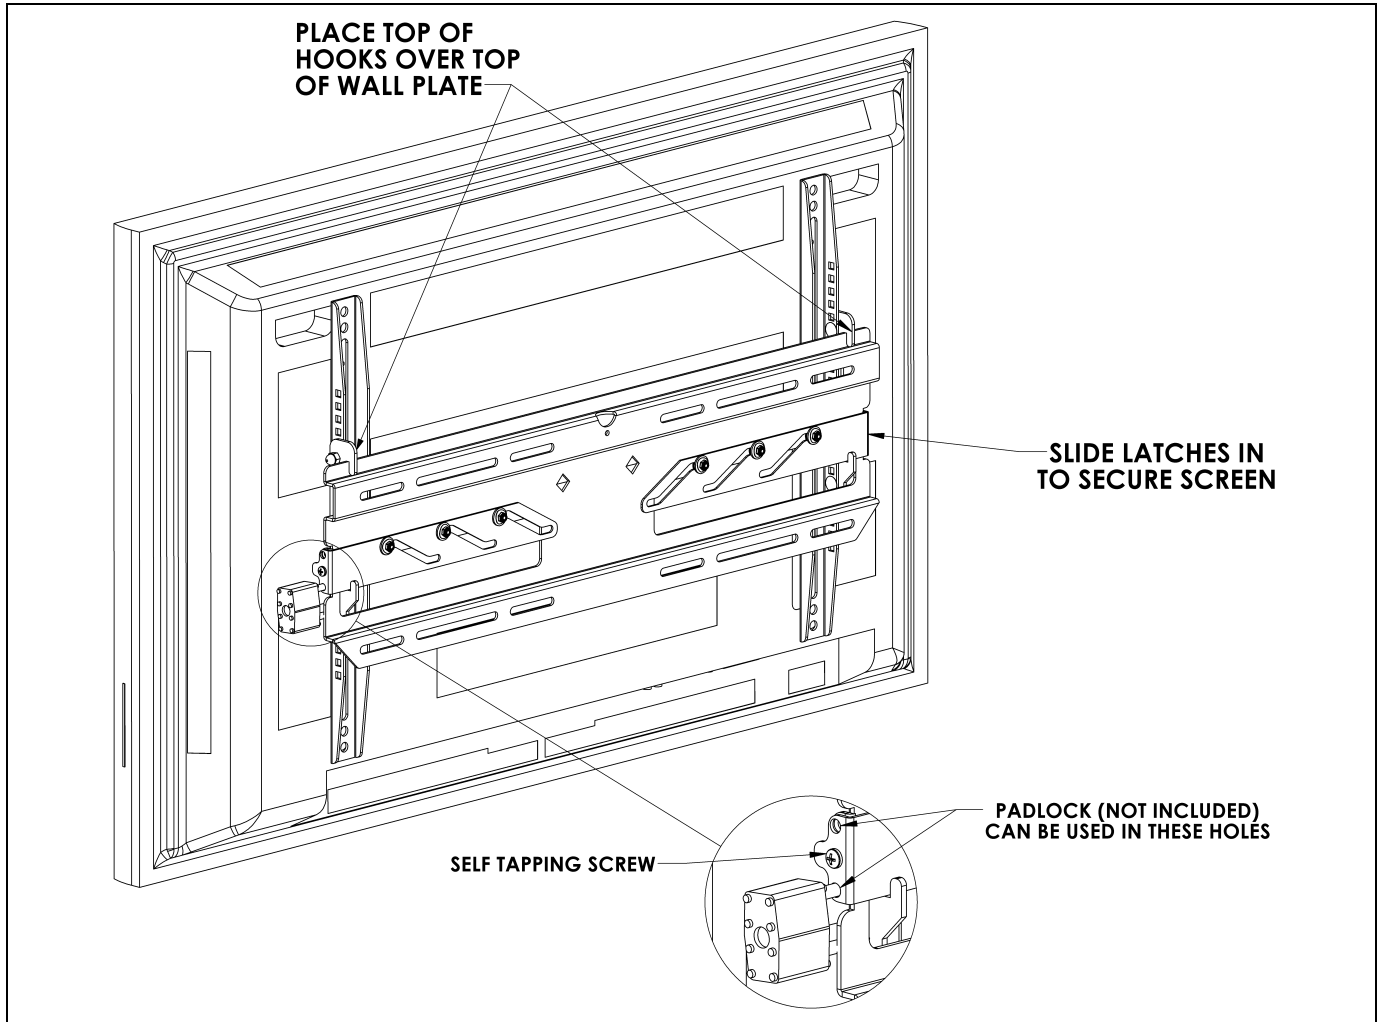

Figure 7
2. Secure the display by sliding the latches, one on each side, inward. (See Figure 7)
3. If desired, install self tapping screws (230) and/or padlocks (not provided) for additional security. (See Figure 7)